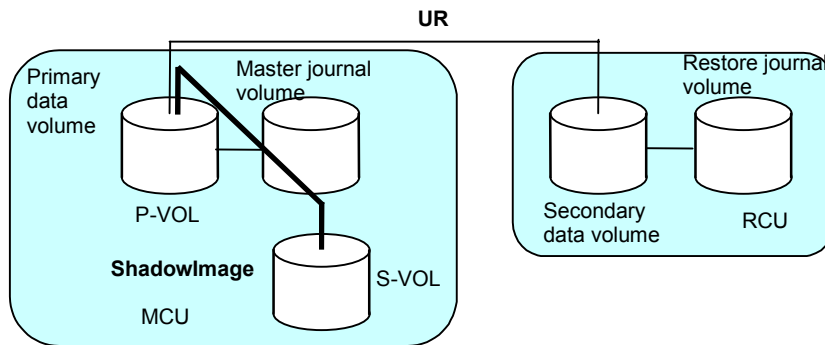
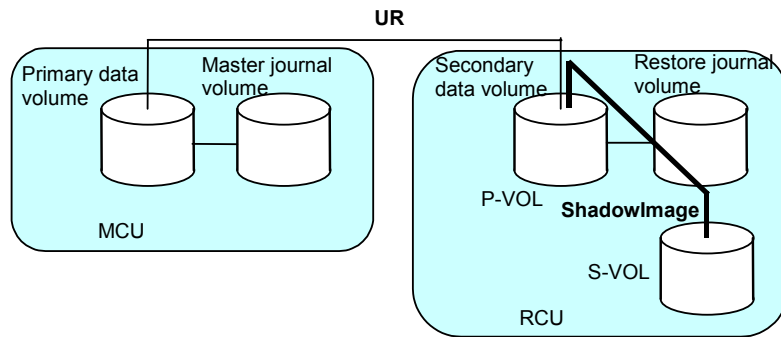
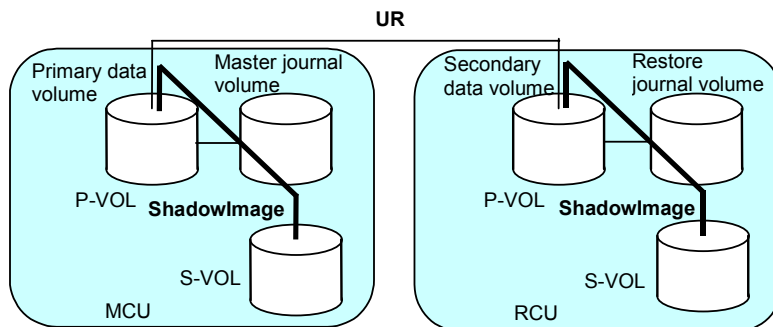
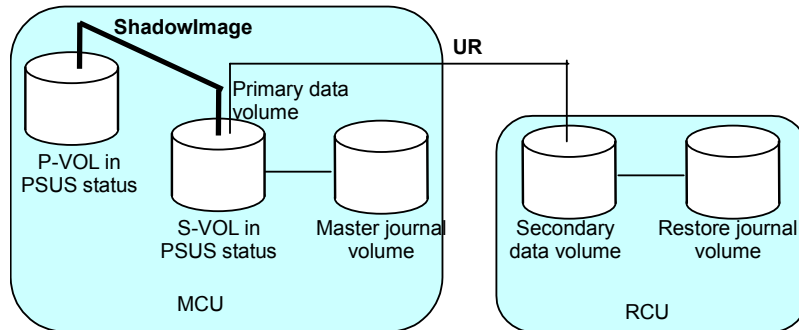

Figure 3-5 Shared UR Primary Data Volume and ShadowImage P-VOL
Figure 3-6 Shared UR Secondary Data Volume and ShadowImage P-VOL
Figure 3-7 Shared UR primary data volume and ShadowImage P-VOL, and UR secondary data volume and ShadowImage P-VOL
Figure 3-8 ShadowImage S-VOL in PSUS Status Functioning as UR Primary Data Volume
Figure 3-5 through Figure 3-8 show the various UR/ShadowImage configurations which share volumes.
Figure 3-5 shows an example of an UR primary data volume which is also functioning as a ShadowImage P-VOL. This configuration allows you to use ShadowImage for on-site data backup in case of a UR failure, and to use UR to provide remote backup of the ShadowImage P-VOL in case of a ShadowImage failure.
Figure 3-6 shows an example of an UR secondary data volume which is also functioning as a ShadowImage P-VOL. This configuration allows you to use ShadowImage to provide multiple backup copies of a single UR primary data volume.
Caution: When you share a UR secondary data volume with a ShadowImage P-VOL as shown in Figure 3-6, the write operation to the UR primary data volume takes time. Especially, when the ShadowImage pair is in the PSUS(SP) status, the write operation to the UR primary data volume may take extra time depending on the time needed for copying the ShadowImage pair.
Figure 3-7 combines the configurations shown in Figure 3-5 and Figure 3-6. Within a single UR pair, the primary data volume and secondary data volume are both functioning as ShadowImage P-VOLs, providing multiple copies at the primary and remote sites.
If a failure occurs and the ShadowImage P-VOL is damaged in Figure 3-8, take the following steps to copy data from the UR secondary data volume to the ShadowImage P-VOL so that data can be restored to the ShadowImage P-VOL: